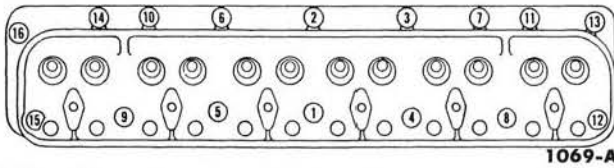

FIG. 19—Cylinder Head Bolt Tightening Sequence
3. The cylinder head bolt tightening procedure is performed in three progressive steps. Tighten the bolts to 55 foot-pounds torque in the proper sequence (Fig. 19), then tighten them to 65 foot-pounds torque in the same sequence. Finally, tighten the bolts to 75 foot-pounds torque in the same sequence. **After the cylinder head bolts have been tightened to specifications, the bolts should not be disturbed.**